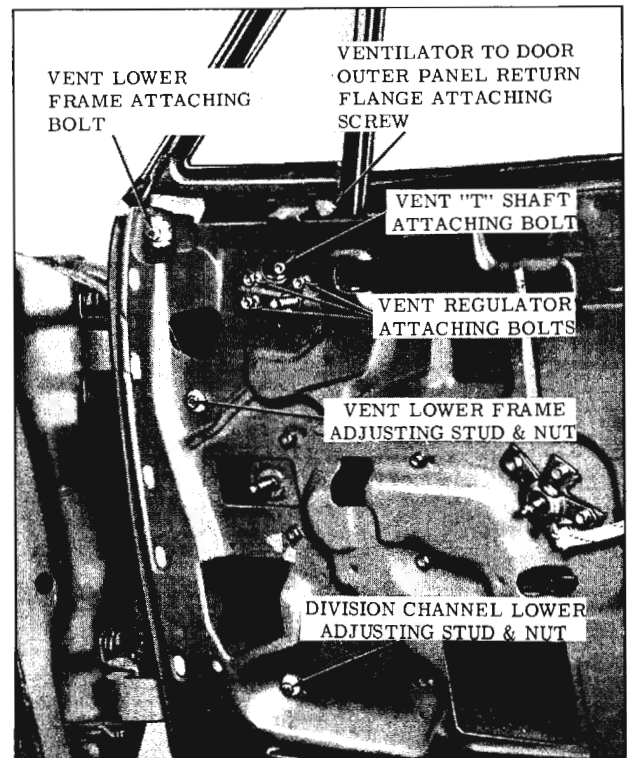

Fig. 16-33 Ventilator Assembly Attachment
3. Remove ventilator tee shaft attaching bolt and ventilator regulator attaching bolts. (Fig. 16-33)
1. Excessive "play" of ventilator at pivot shaft, when ventilator is in an open position, can be corrected by tightening ventilator tee shaft to regulator attaching bolt. (Fig. 16-33)
2. Lower door window. Remove ventilator to door outer panel return flange attaching screw. (Fig. 16-33)
4. Remove ventilator division channel lower adjusting stud and nut. (Fig. 16-33)
6. Remove ventilator lower frame attaching bolt and ventilator lower frame adjusting stud nut. (Fig. 16-33)
3. To adjust lower portion of ventilator division channel for alignment with window assembly, lower door window and loosen ventilator division channel adjusting stud nut. Turn adjusting stud in or out or position lower end of channel fore or aft, as required; then retighten adjusting stud nut. (Fig. 16-33)
- Remove ventilator division channel lower adjusting stud and nut. (Fig. 16-33)